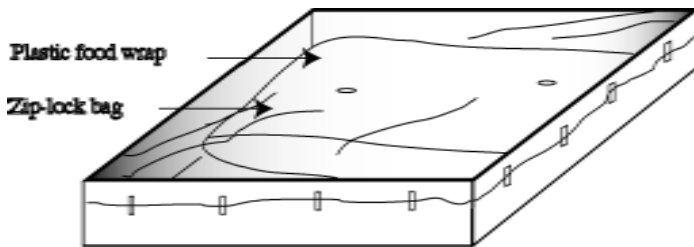

Fig 2. Simple Solar Water Heater
- (1) Cut down the cardboard boxes so that the smaller box fits inside the larger one.
- (2) Paint the inside of the small box black, for greater heat absorption.
- (3) Insulate the box on the bottom and sides by placing insulating material in the gap between the two boxes.
- (4) Cut a large hole in the cover of the larger box. Cover the hole with plastic food wrap or place glass in the cut-out portion. The escape of longer wavelengths of heat energy is prevented by the glazing.
- (5) Glue the tin foil or mirror to a big piece of recycled corrugated cardboard. It should be approximately the same size as the cover of the box.
- (6) Hinge the reflector to the box with tape.
- (7) Hold up the reflector with the help of props and string (see Figure 2).